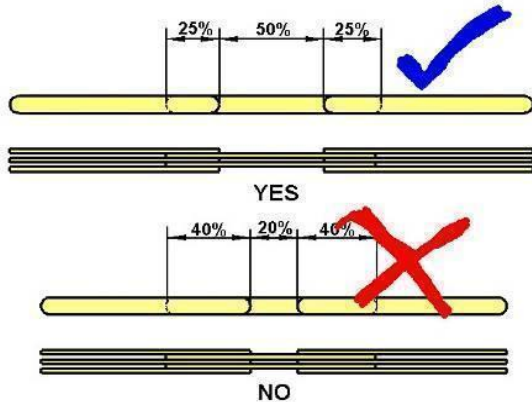

Figure 2 - "50% Rule" Restrictions
- Bridge roadway must be continuous, flat, and level. The roadway shall maintain gaps to avoid violating the 50% rule. Refer to Figure 2 above.